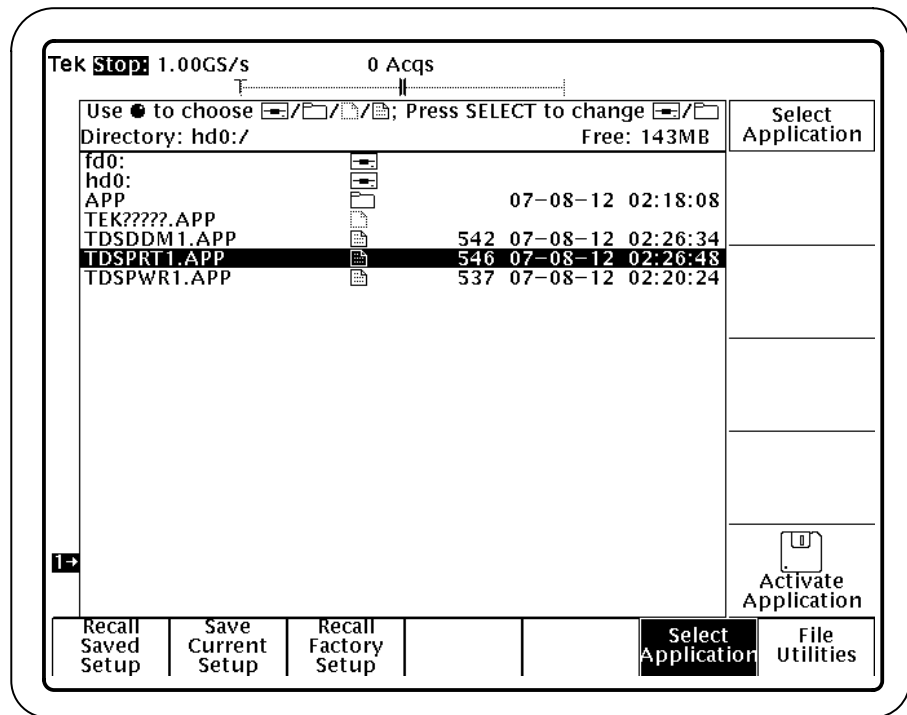

Figure 1: Starting the application
You can start the application at any time. To do so, refer to Figure 1 and follow these steps:
2. Use the general purpose (GP) knob to select hd0, and then press SELECT.
3. Use the GP knob to select TDSPRT1.APP title, as shown in Figure 1, and press Activate Application (side).